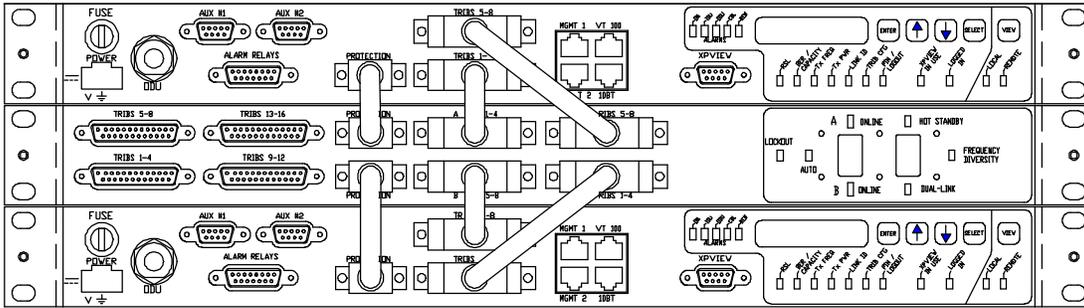

Figure 7-10. Cable Connections for Front Access 2x/4x and 4x/8x Protected Systems
- Install the cables as shown in Figures 7-10 and 7-11.